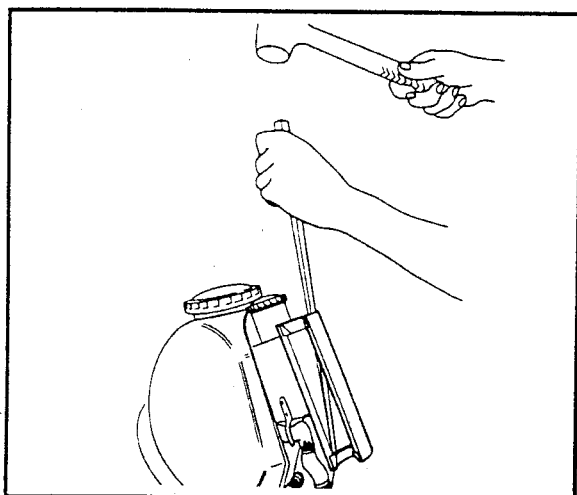

Figure 5-29. Bearing Cup Removal
1. See Figure 5-29. Use a hammer and a punch to remove the bearing cup.